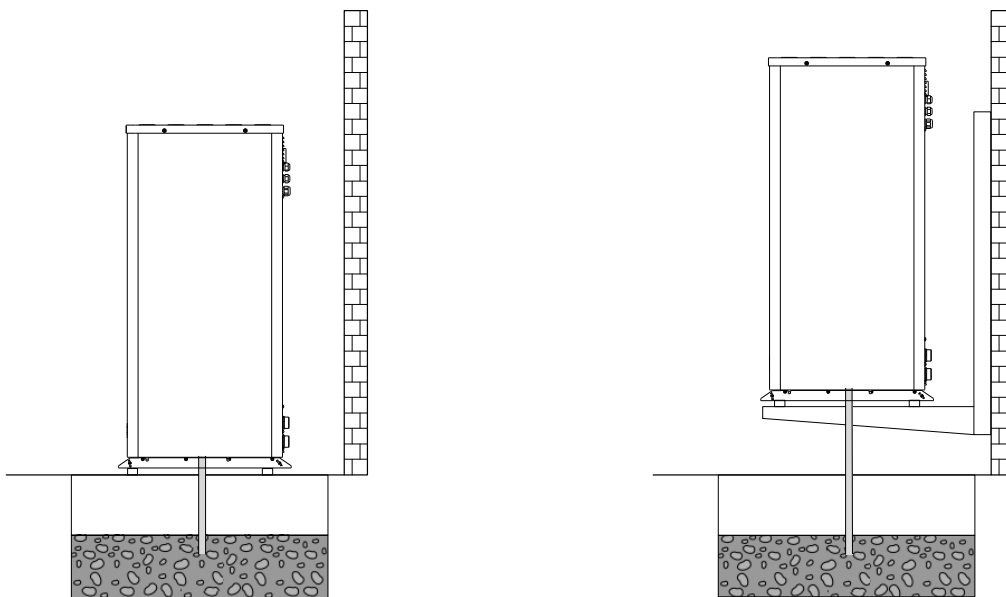

Figure 2.7. Support system with tray connected to a layer of gravel to drain the water.
- If the module is installed on a surface that does not drain, place a pipe to channel the defrost water from the module outlet to the nearest drain. Figures 2.7 and 2.8 show several proposed systems to evacuate the water, depending on the support system.